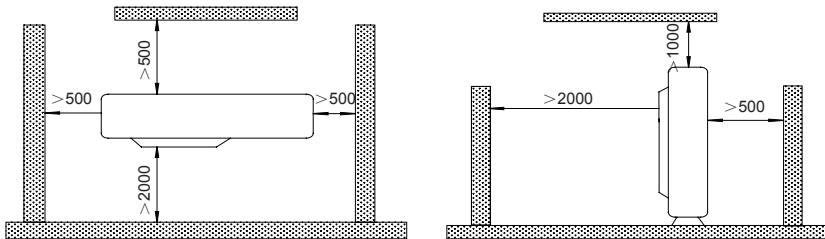

Fig.3.2
- (1). Install the outdoor unit in a place where it will be free from being dirty or getting wet by rain as much as possible.
- (2). Install the outdoor unit where it is convenient to connect with the indoor unit.
- (3). Install the outdoor unit where the condensate water can be drained out freely during heating operation.
- (4). Do not place animals and plants in the path of the warm air.
- (5). Take the air conditioner weight into account and select a place where noise and vibration are small.
- (6). Install the outdoor unit where is capable of withstanding the weight of the unit and generates as less noise and vibration as possible.
- (7). Provide the space shown in Fig.3.2, so that the air flow is not blocked. Also for efficient operation, leave three of four directions of peripheral constructions open.